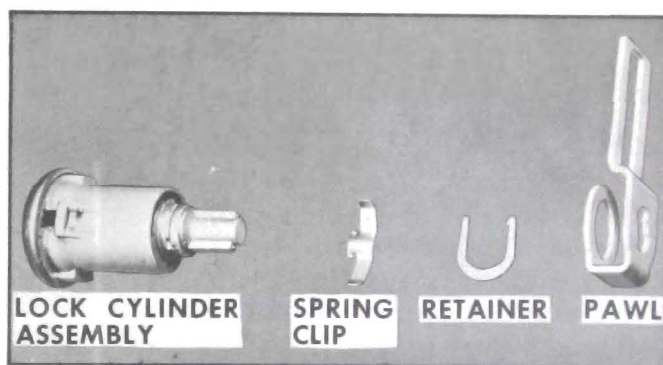

Figure 13-46—Door Lock Cylinder Disassembled
2. With suitable tool, remove retaining clip, pawl and spring clip. See Figure 13-46.